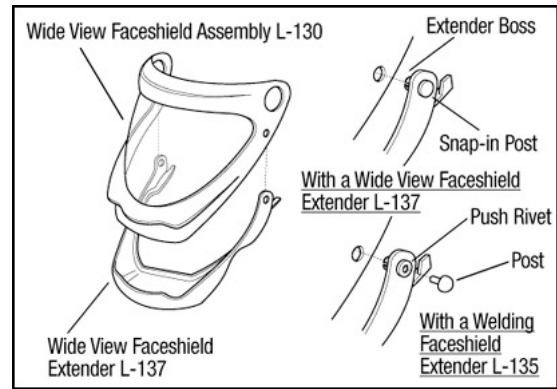

Fig. 12: Removing and Installing the Extender
- Hook the “chin” of the extender around the faceshield. Align the extender bosses with the holes in the faceshield assembly (Fig. 12).